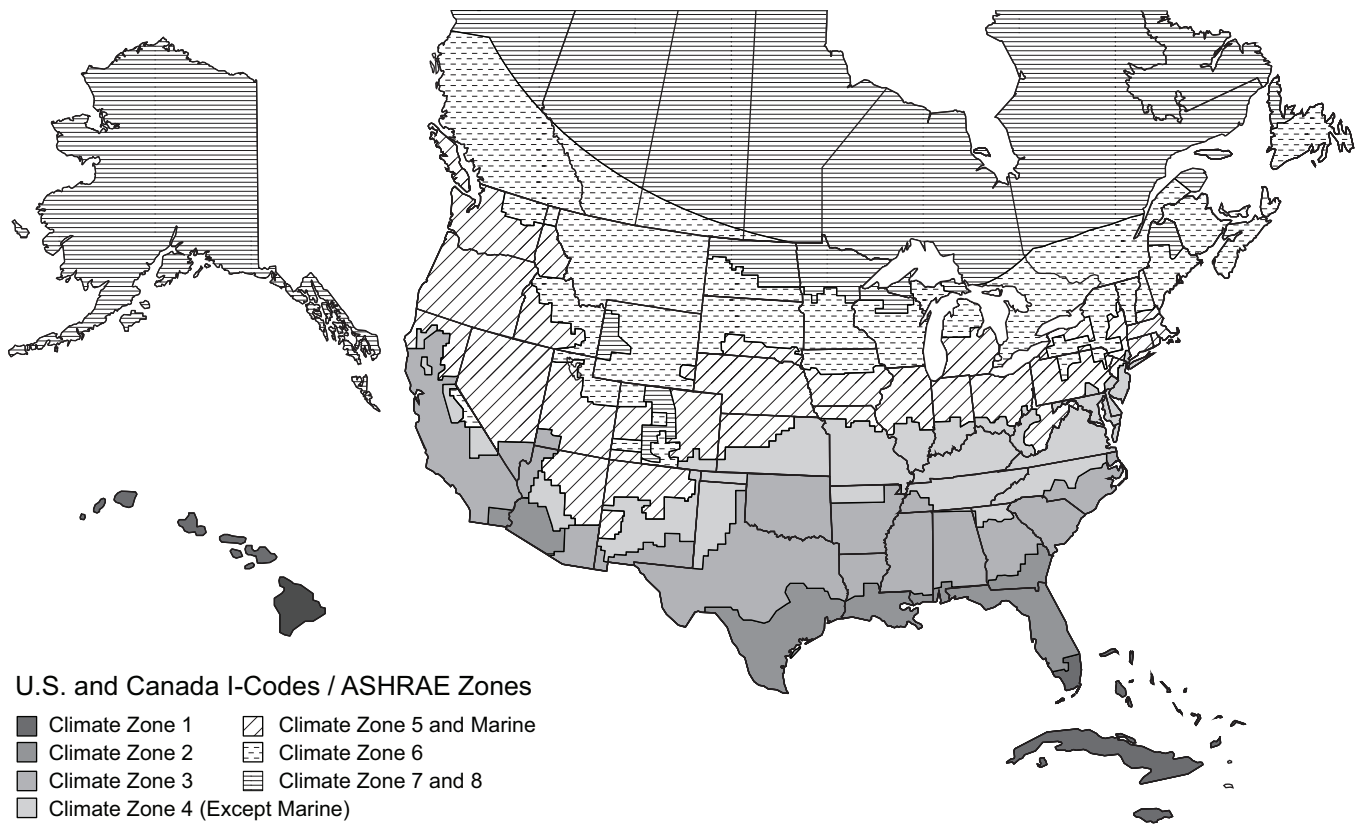

Fig. 80 — U.S. and Canada Climate Zones
- a. Refer to Fig. 80 for map of U.S. and Canada climate zones.